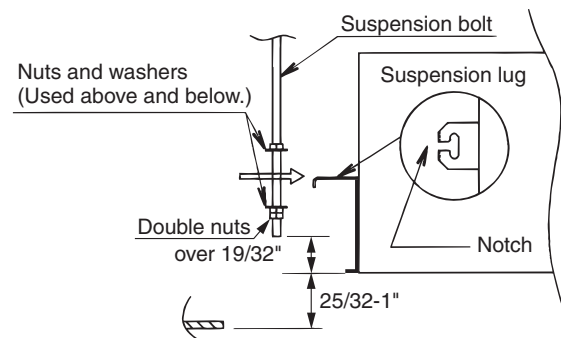

Fig. 3-59
- (3) Thread the 3 hexagonal nuts and 2 washers (field supply) onto each of the 4 suspension bolts as shown in Fig. 3-59. Use 1 nut and 1 washer for the upper side, and 2 nuts and 1 washer for the lower side, so that the unit will not fall off the suspension lugs.
- (4) Lift up the indoor unit and fit the suspension bolts into the notches in the suspension lugs.
- (5) Adjust so that the distance between the bottom of the indoor unit suspension lugs and the bottom of the ceiling panel is 25/32-1". Then tighten the nuts above and below each suspension lug. The full-scale installation diagram can be used to help adjust the height of the indoor unit.